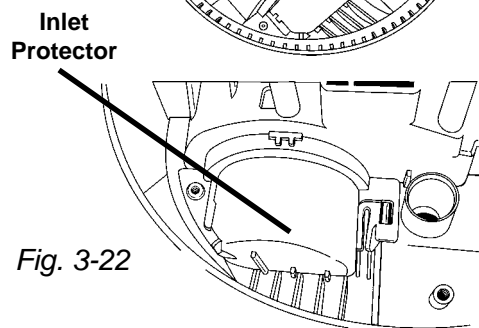

Fig. 3-22
4. Remove the screw securing the inlet protector to the pump base and lift the inlet protector out. (Fig. 3-22)